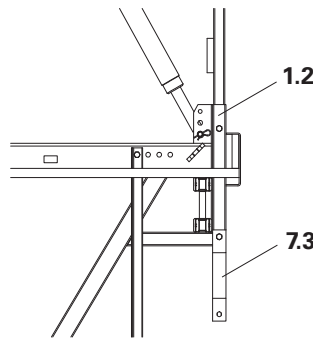

Fig. B1.34a
1. Fix Tension Anchor Connector CB (7.3) with designated Bolt M16 x 100, SW 24, to vertical tube of the bracket (1.2). (Fig. B1.34a)